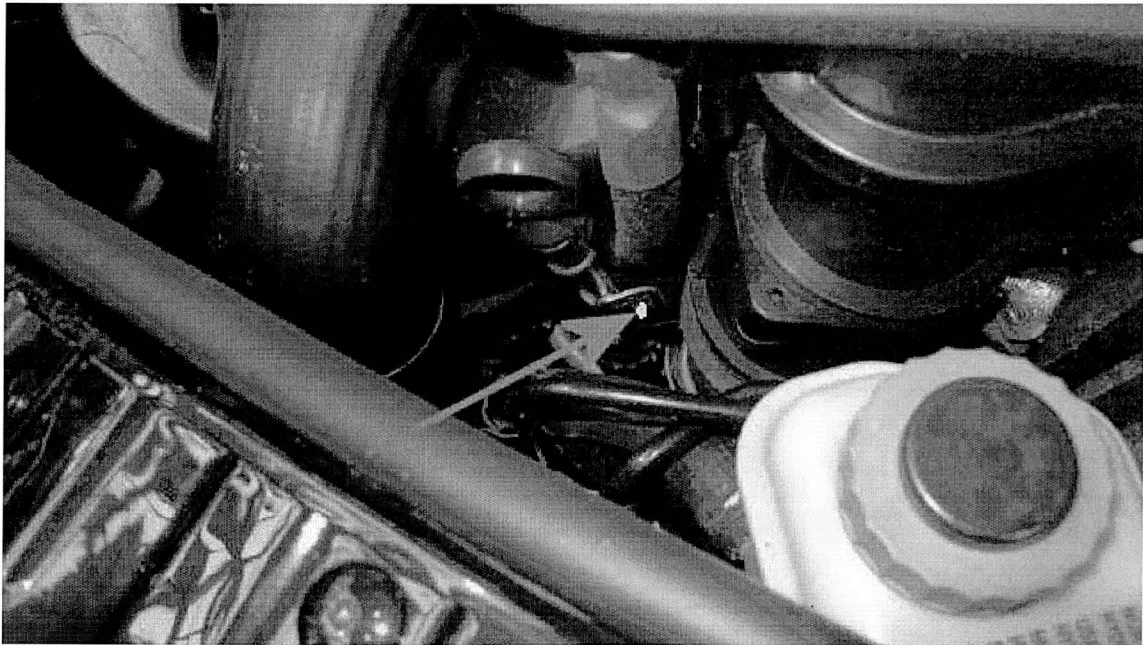

Figure 11
A further completion check is the Campaign identification mark, which is a yellow paint mark on the engine oil dipstick tube bracket (Figure 11) should none of the afore mentioned checks be evident please carry out the required work in accordance with these instructions.
4. Place a Yellow confirmation mark on the rear of the engine oil dipstick tube bracket (Figure 11)
Yellow paint mark on the engine oil dipstick tube bracket (Figure 11)